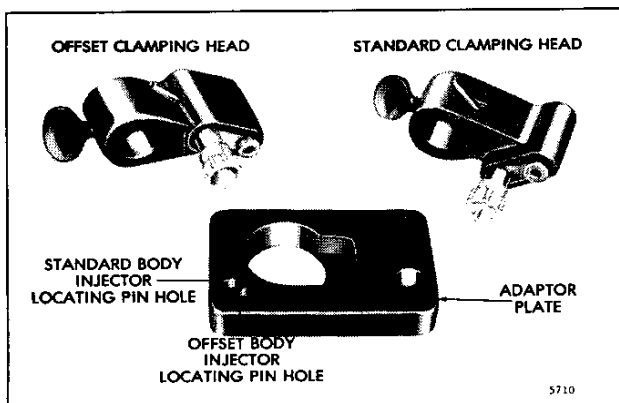
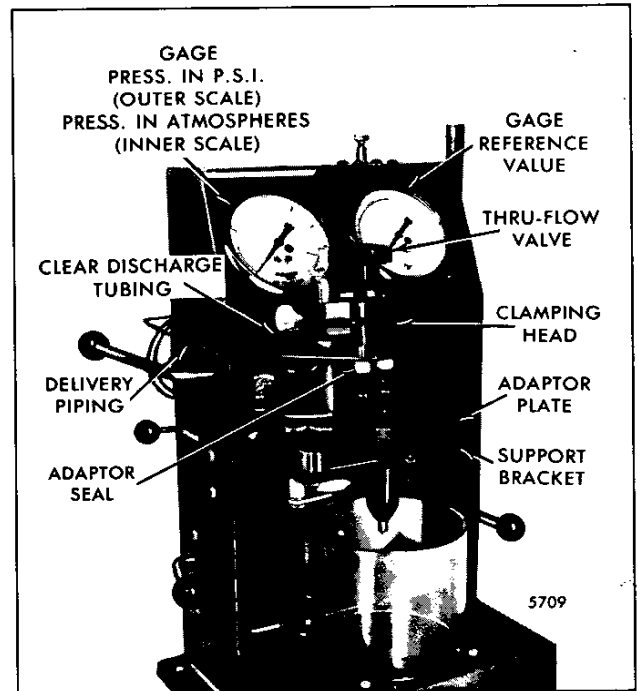

Fig. 1 - Injector Tester J 23010-A Clamping Heads
Fig. 2 - Injector Installed in Tester J 23010-A with Clamping Head
1. Select the proper clamping head (Fig. 1). Position it on the clamping post and tighten the thumb screw into the lower detent position (Fig. 2).
5. Mount the injector through the large hole and insert the injector pin in the proper locating pin hole (Fig. 1).
2. Align the clamping head seals over the injector filter caps (Fig. 2).